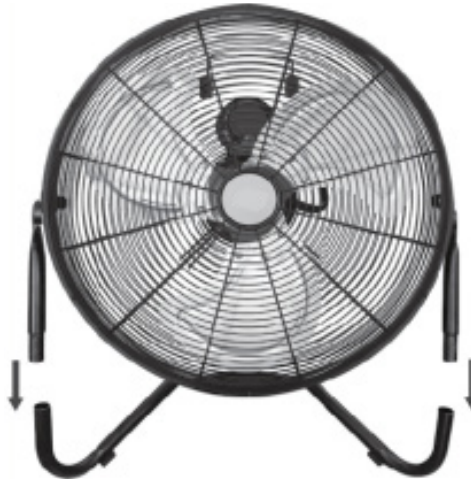

Fig. 1
2. Position the V-shaped fan stand on the floor and slide the tubes extending from the fan assembly into the V-shaped fan stand. Push tubes down until the spring loaded button protrudes through the holes and locks into place (refer Fig. 1)
3. Ensure that fan assembly is positioned on the V-shaped stand as shown in Fig. 1